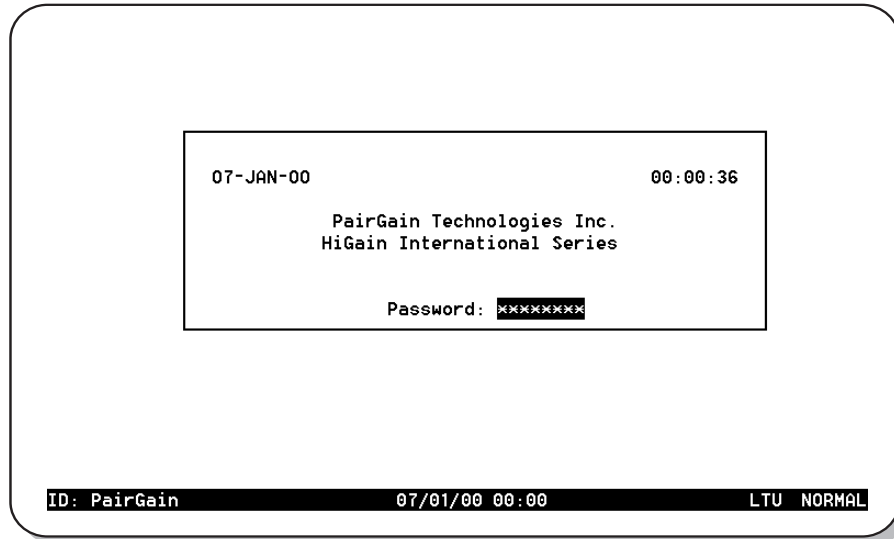

Figure 12. Logon Password Screen
- 1 Press the **SPACEBAR** several times to display the Logon Password screen (Figure 12).